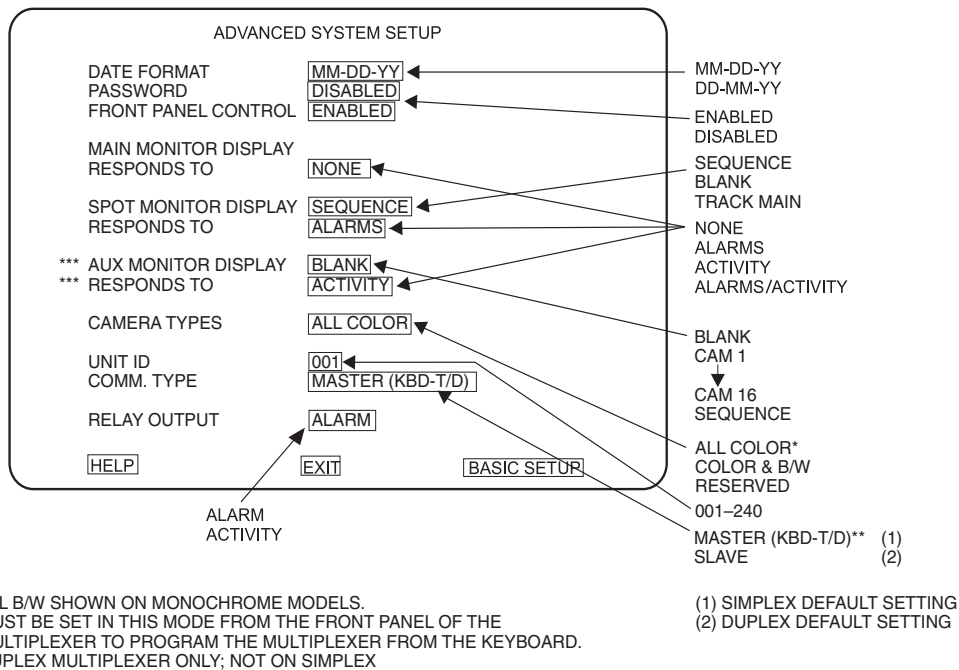

Figure 9. Advanced System Setup Menu
5. Press the OPEN key. The Advanced System Setup menu appears (refer to Figure 9).